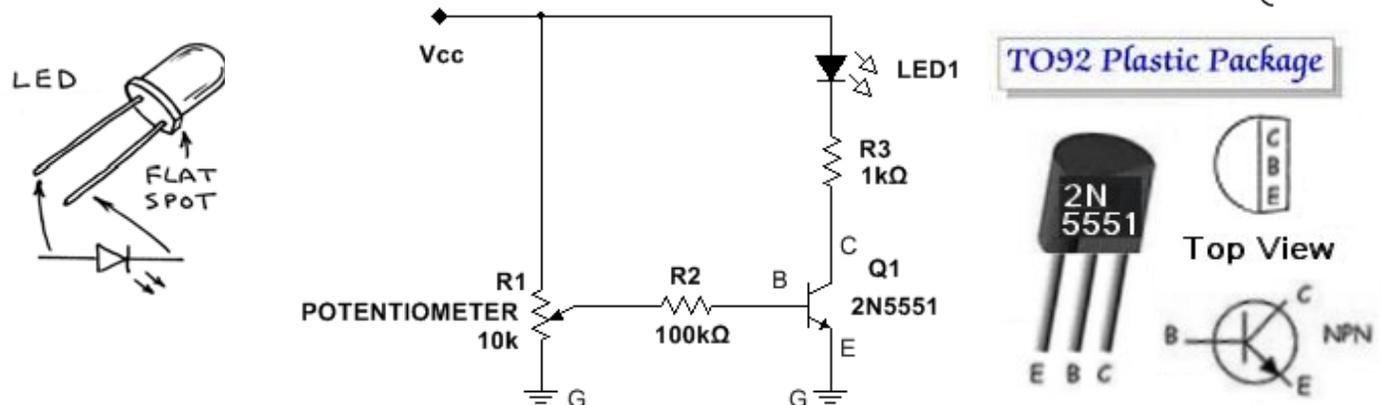

Figure 3.7. Current Gain Measurement Circuit
3.2) The circuit we are going to set up is somewhat similar to the one on page 54 of the Electronic Workbook 1 in the middle of the page, but there are enough differences so that we will use a **different placement** of parts. Refer to Figure 3.7.
(Figure 3.7 shows two fixed resistors, 1Kohm and 100Kohm, in addition to the 10Kohm pot. Note that $I_B = V_{R2} / 100K$ the current through the 100Kohm resistor - between the pot slider (center spring of pot), and the base B (center pin) of the 2N5551 transistor.)
The circuit above illustrates one possible configuration for the Current Gain Measurement Circuit of Figure 3.7.